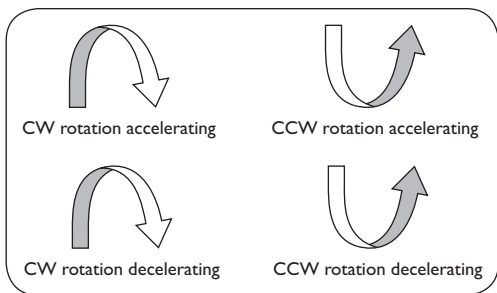

Figure 9-3 Four-Quadrant Operation
A drive can be required to speed up or slow down a motor and change the rate at which the motor is adjusted. A drive can also be required to change the direction of rotation of the motor. Restated, a drive can be required to operate the motor in a counterclockwise (CCW) direction or in a clockwise (CW) direction. That is, a drive can be capable of operating in one or more of four quadrants: CW, accelerating or decelerating, or CCW, accelerating or decelerating. Figure 9-3 lists these four quadrants.